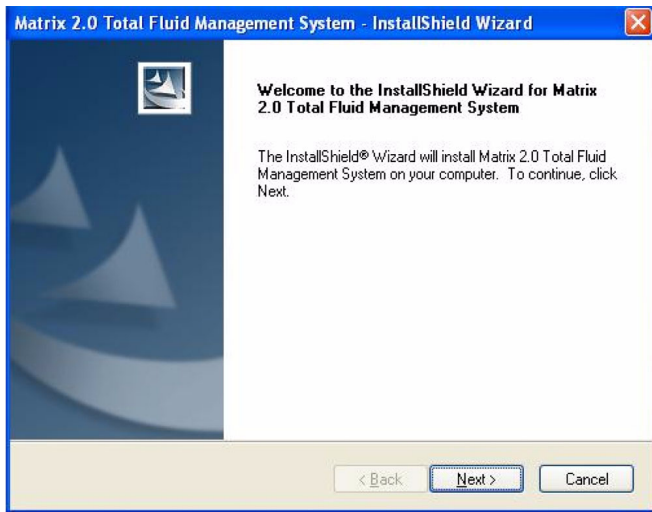
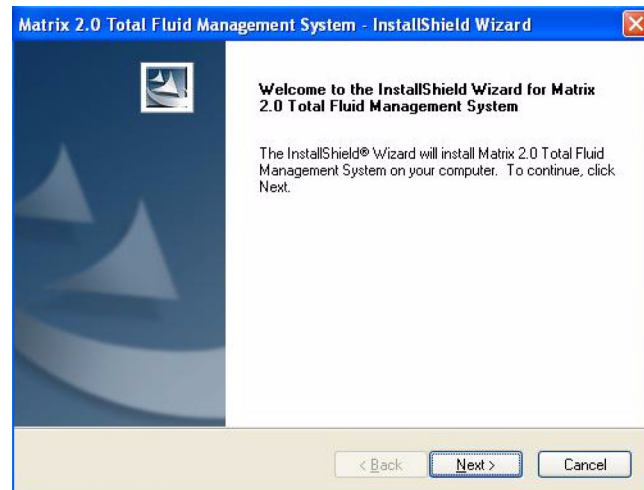

FIG. 12 Setup Path 1 - InstallShield Wizard
FIG. 27 Setup Path 1 - InstallShield Wizard
See FIG. 12 through FIG. 27.
4. The setup program should start automatically. If it doesn't, open Windows Explorer (**Start / All Programs / Accessories**). Locate the CD-ROM drive letter under **My Computer** and double-click the setup executable file to see the screen shown in FIG. 12.